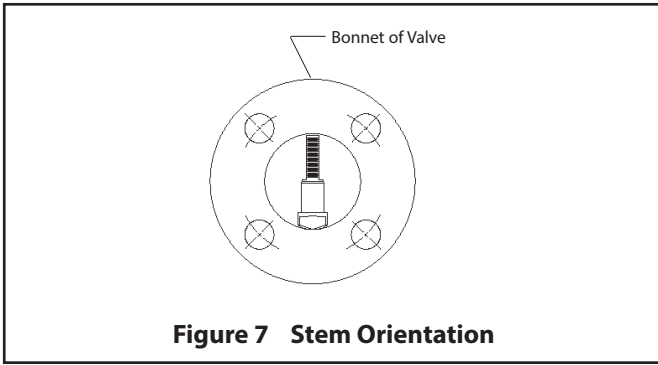

Figure 7 Stem Orientation
- D. Roll the entire valve on its flanges until the bonnet faces up. Then rotate the stem ¼ turn. The stem subassembly should look like (**Figure 7**) as seen from the insert end of the valve.